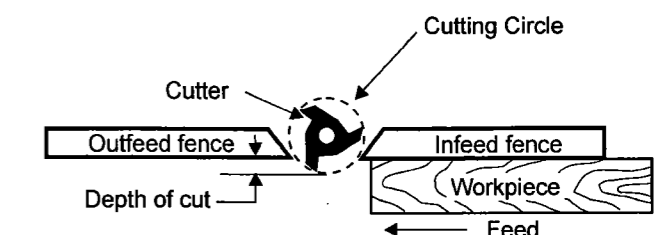

FIGURE 17
1. For average work, where a portion of the original edge of the work is not to be touched by the cutter, both the front and rear fences are set in a straight line as shown in Figure 17.